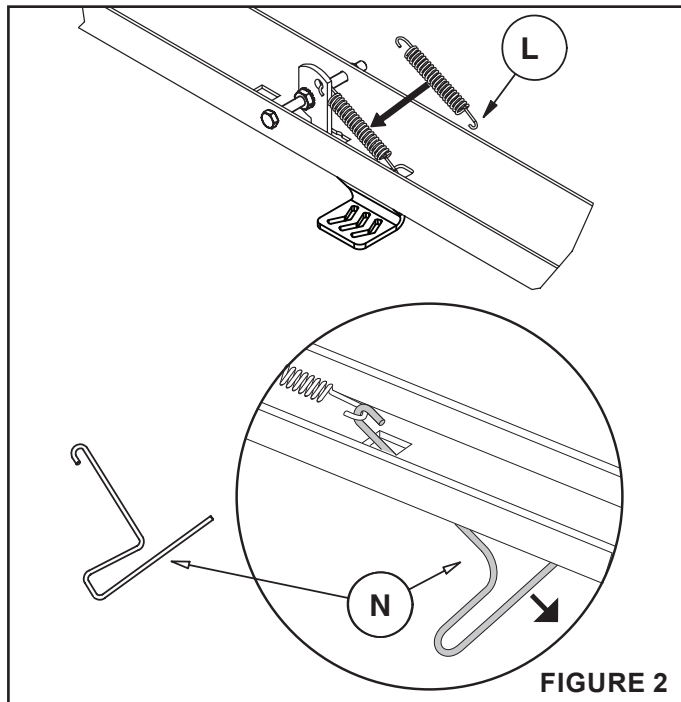

FIGURE 2
STEP 2: (SEE FIGURE 2)
- Install short hook end of the extension spring (L) into the open hole on the foot pedal latch (5).
- Place the spring puller (N) through the square hole on the swivel tongue (7) as shown below.
- Hook the spring puller (N) onto the end of the extension spring (L).
- Remove the spring puller (N).